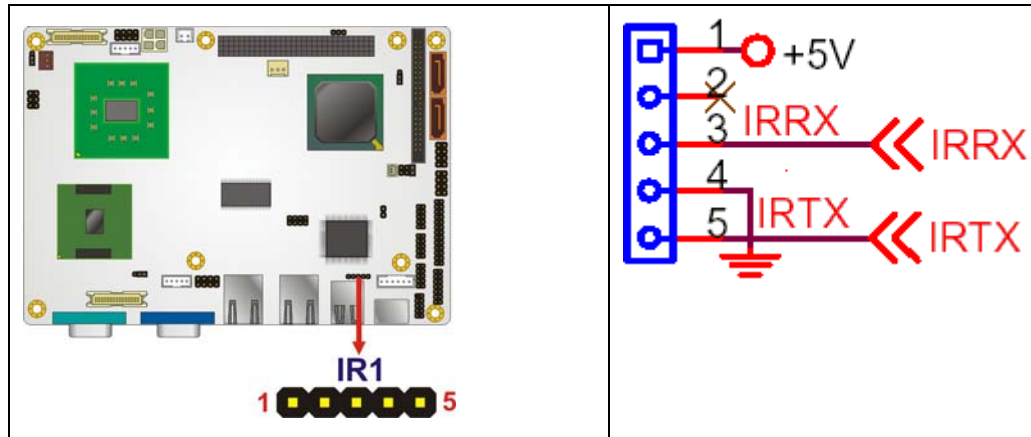

Figure 3-13: Infrared Connector Pinout Locations
- CN Location:** See Figure 3-13